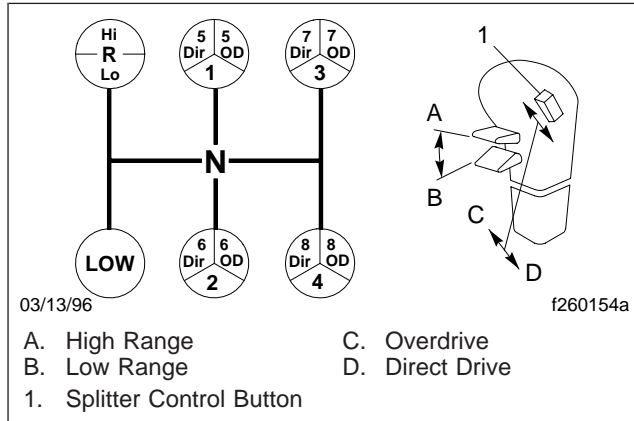

Fig. 5.16, Meritor 13-Speed Transmission Shift Pattern
The Meritor 13-speed transmission has 13 forward speeds and two reverse speeds. Each transmission consists of a five-speed front section, and a three-speed auxiliary section. The auxiliary section contains low- and high-range ratios, plus, an overdrive splitter gear. See Fig. 5.16.
4. While in 5th direct, and ready for the next downshift, push the range selection lever down into low range. Double-clutch through neutral, and shift into 4th gear. See Fig. 5.16. As the shift lever passes through neutral, the transmission will automatically shift from high range to low range.